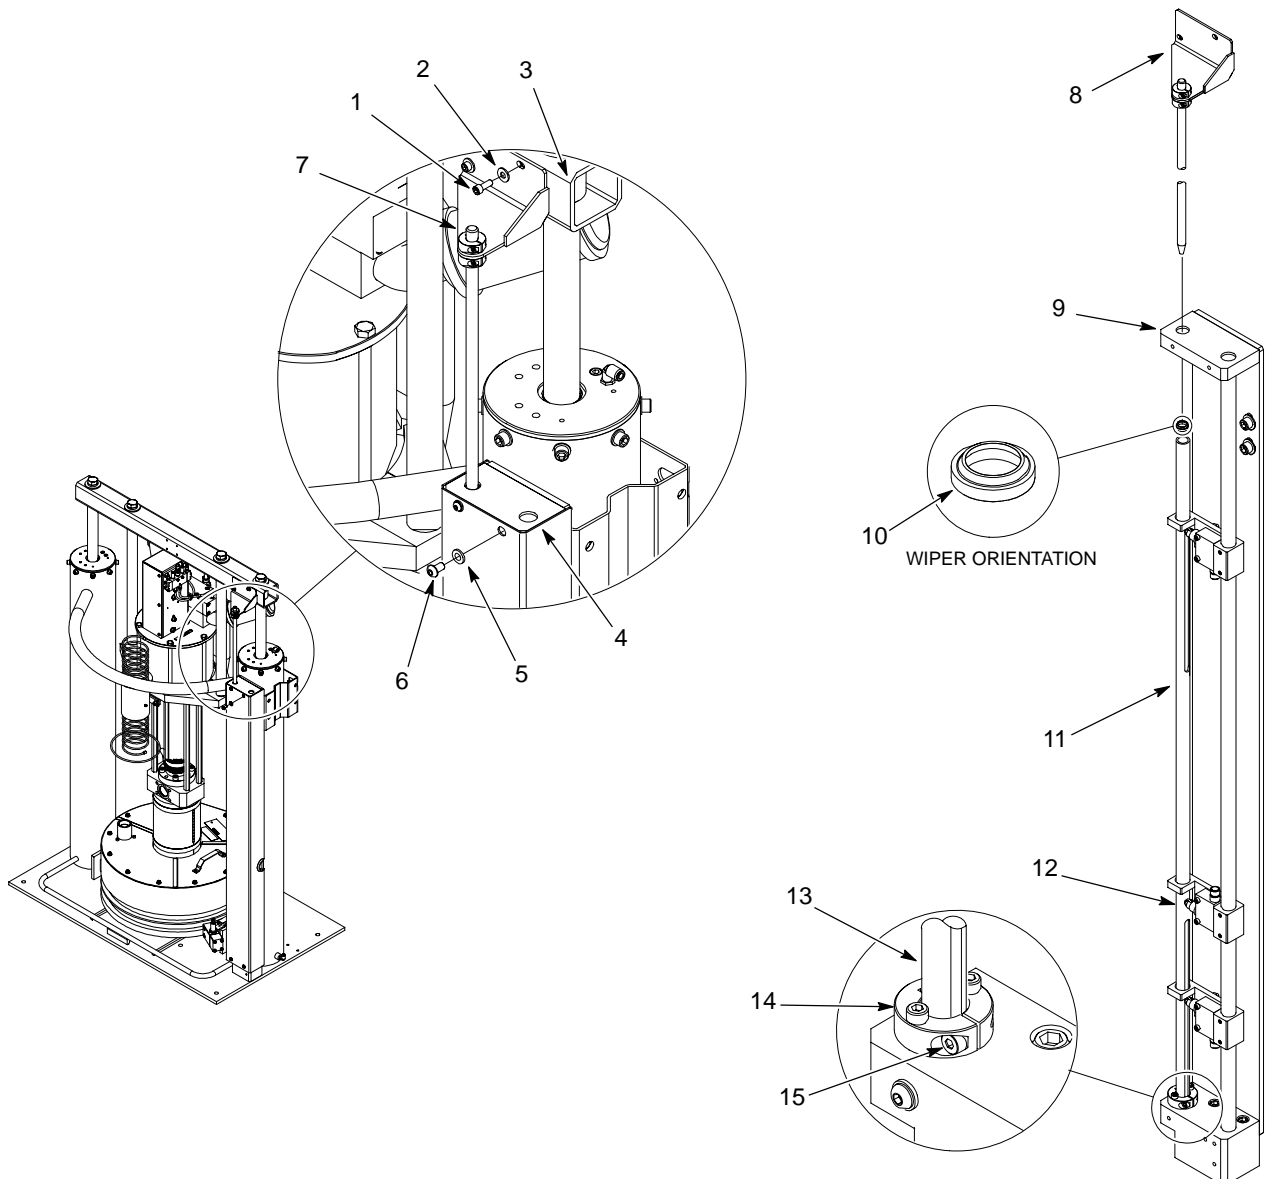
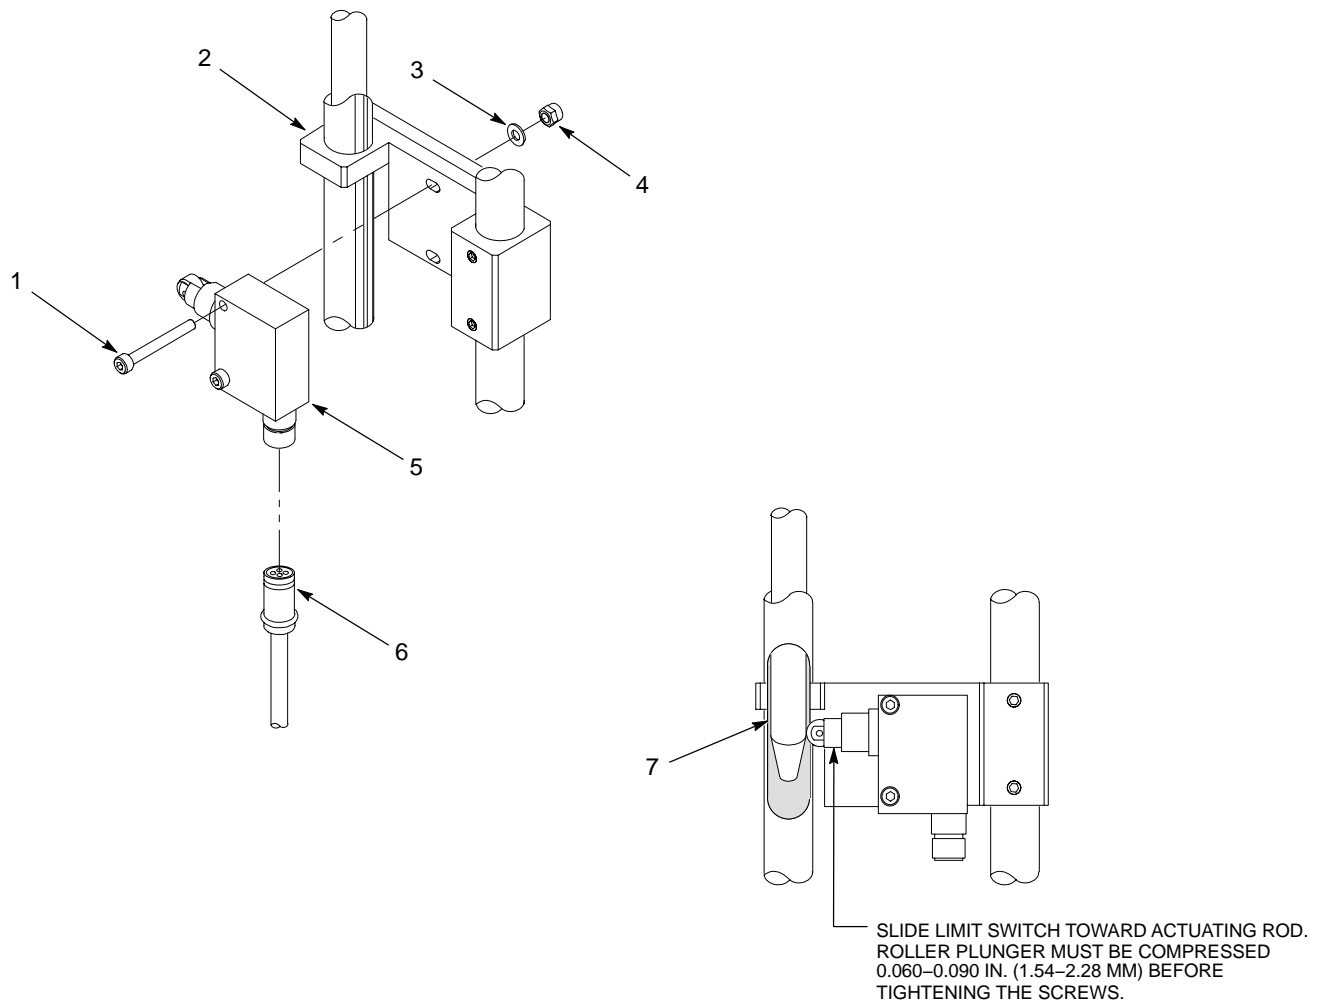
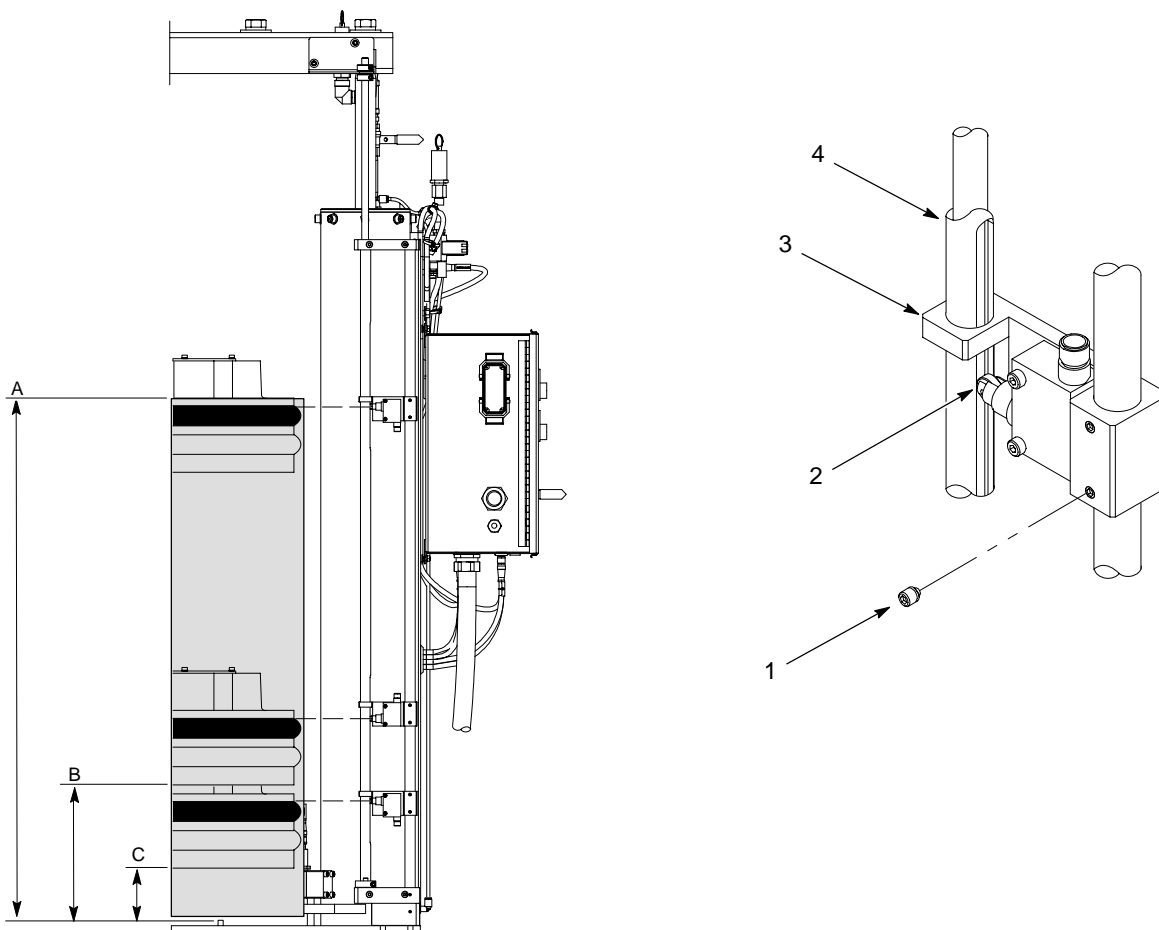

Figure 2 Wiper Seal Replacement
Figure 3 Limit Switch Replacement
Figure 4 Adjusting the Limit Switches
1. See Figure 2. Remove the screws (6) and washers (5) securing the cover (4) to the base plate (9).
2. Remove the screws (1) and washers (2) securing the mounting bracket (7) to the crossover bar (3).
3. Remove the actuating rod assembly (8) from the guide tube (11).
4. Loosen the screw (15) on the split collar (14). Push the guide tube (13) downward to access the wiper seal (10). Remove the wiper seal from the base plate (9) and discard.
5. Assembly is the reverse order of disassembly. Verify the settings of the limit switches (12) before installing the cover (4).
2. See Figure 3. Disconnect the cable (6) from the limit switch (5).
3. Remove the lock nut (4), washer (3), and screws (1) securing the limit switch (5) to the switch bracket (2).
4. Install the new limit switch (5) to the switch bracket (2) using the screws (1), washers (3), and lock nut (4). Do not tighten the screws at this time.
5. Slide the limit switch (5) toward the actuating rod (7) until the limit switch roller plunger is compressed 0.060–0.090 in. (1.54–2.28 mm). Tighten the screws (1) securely.
6. Verify the settings of the limit switch (5).
7. See Figure 2. Install the cover (4) to the base plate (9) using the screws (6) and washers (5). Tighten the screws securely.
See Figure 4 and review the following switch descriptions in Table 1 before making adjustments. Perform the following to reset the limit switches:
2. See Figure 4. Loosen the set screws (1) securing the switch bracket (3) to the guide rails (4).
3. Slide the switch bracket (3) to the desired height and tighten the set screws (1).
4. Verify the settings of the limit switches (2).
5. See Figure 2. Install the cover (4) to the base plate (9) using the screws (6) and washers (5). Tighten the screws securely.